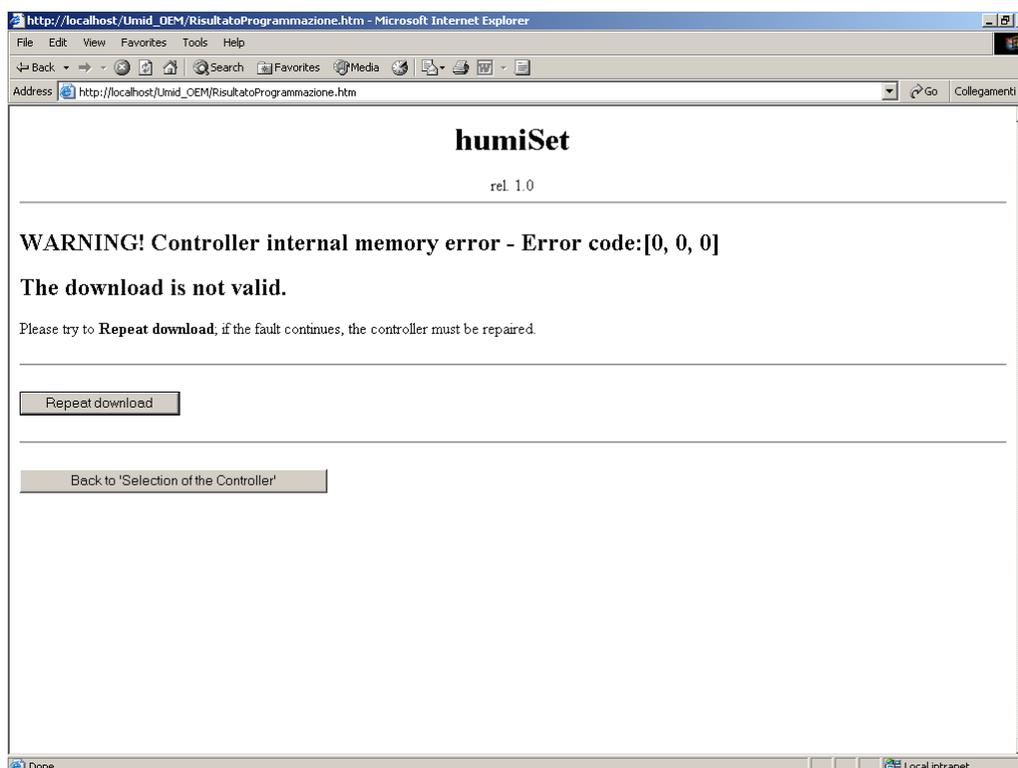

Figure 41
- Likewise, the following page might be displayed (Figure 41):